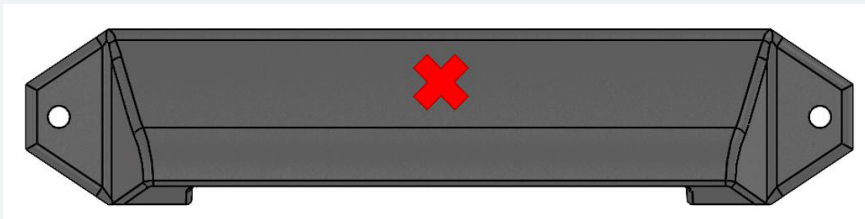

Figure 1: Wire Exit Location
2. Drill a hole with the 1/4in drill bit at the center of the mounting location. Figure 1 has an "X" at the approximate location of the center hole where the wires will be routed.